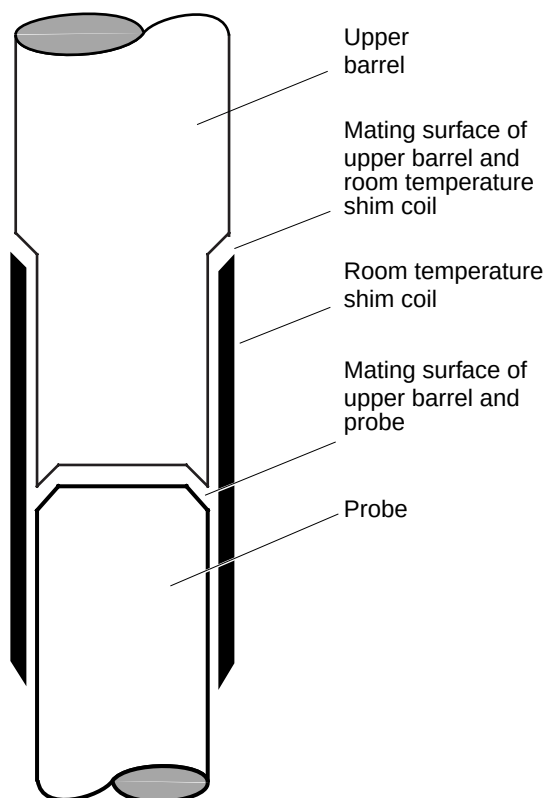

Figure 1. Probe, Upper Barrel, and RT Shim Coil Configuration
The basic probe system consists of three parts (see Figure 1):
Take care not to pinch off any of the air hose lines. The upper barrel makes contact with the shim coil set at point B in Figure 1. Do *not* tighten the thumbscrews on the upper barrel collar at this time.
4. Insert the probe into the magnet until it makes contact with the upper barrel at point A in Figure 1. Push the probe and upper barrel assembly up and tighten the mounting flange thumbscrews. Be sure to tighten the thumbscrews equally.